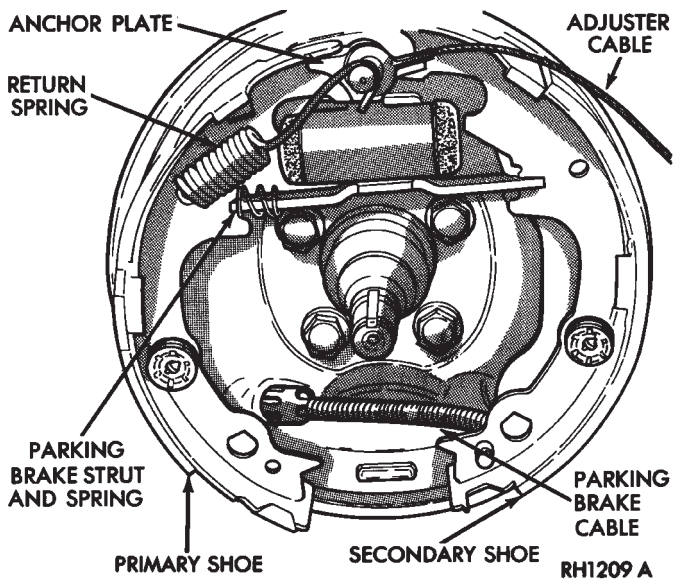

Fig. 7 Installing Parking Brake Cable
(5) Engage parking brake lever with cable. Install parking brake lever into rectangular hole of secondary brake shoe (left side) or primary shoe (right side) (Fig. 7).